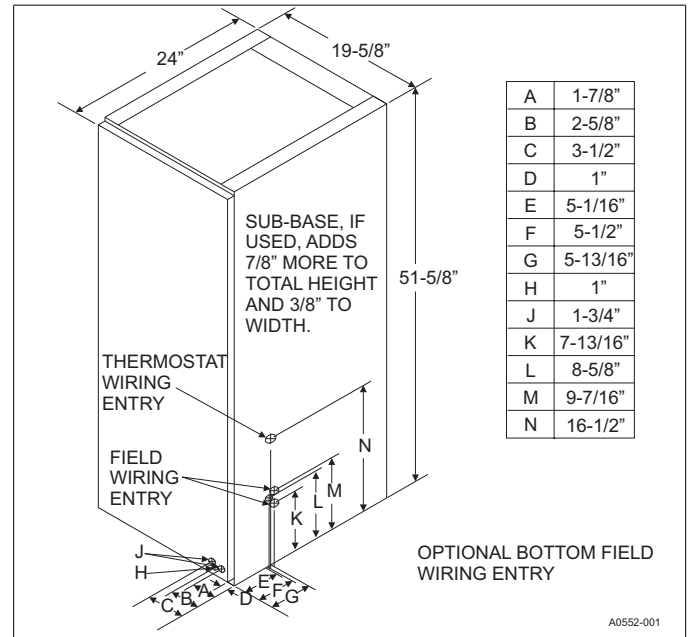

FIGURE 1: Furnace Dimensions
3. Furnace size is the same for all models. See Figure 1.